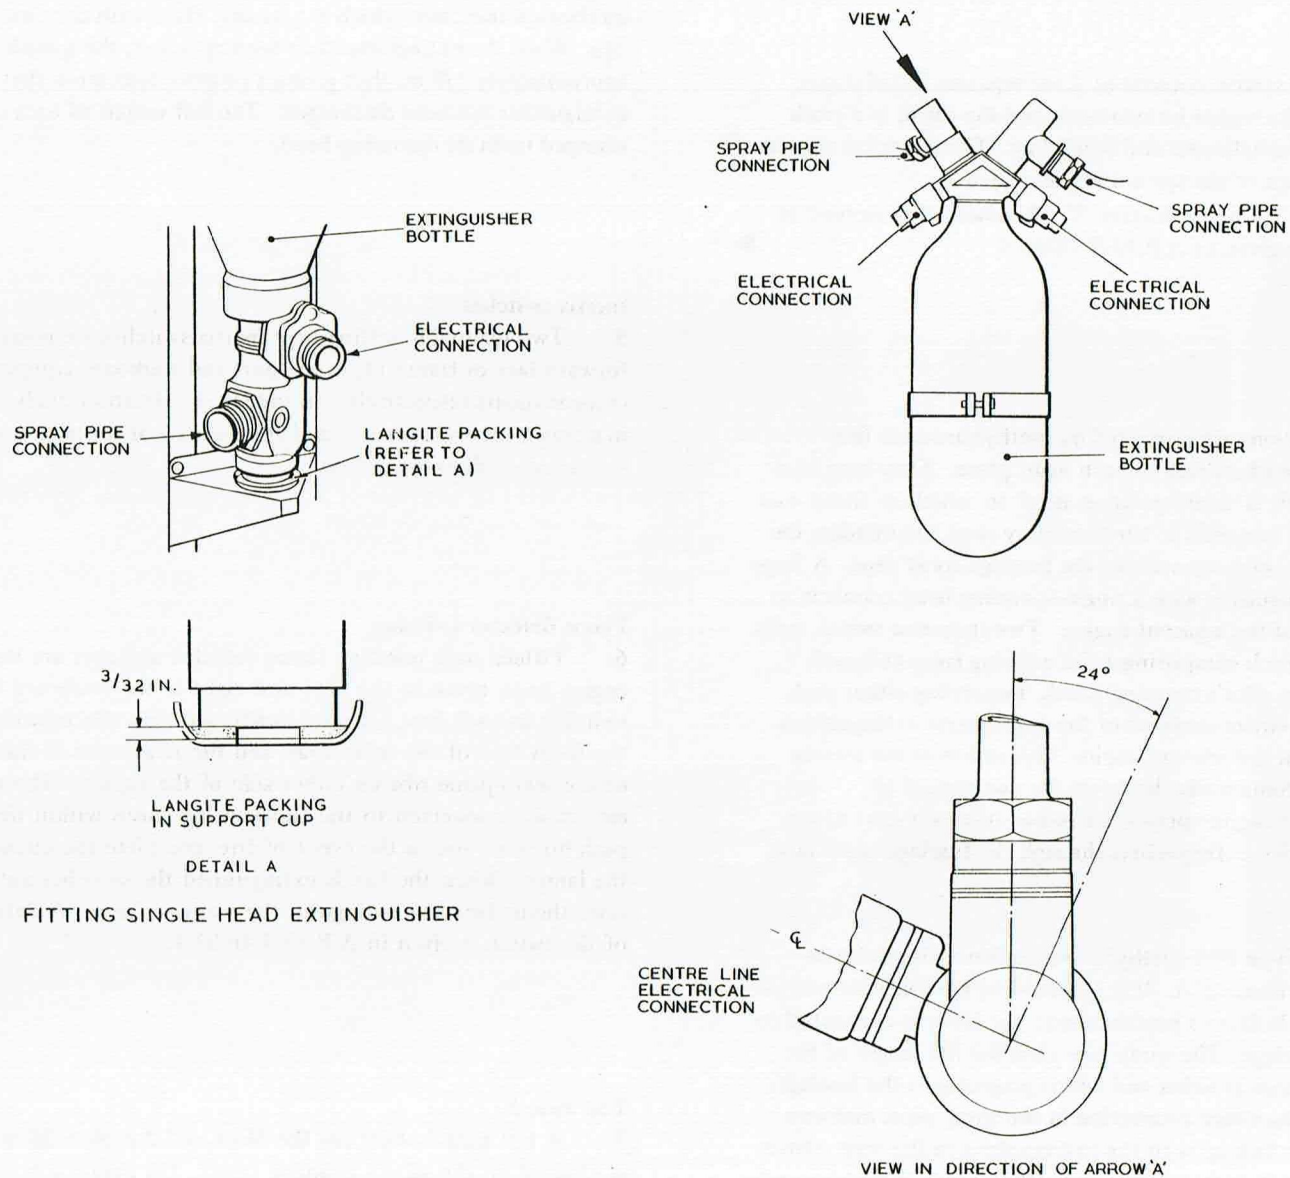

FIG.2.FITTING SINGLE HEAD EXTINGUISHER AND SETTING DUAL-HEAD JUNCTION BOX
14. When fitting a Type 12A or a Type 89A extinguisher, it is essential that the head of the junction box fits securely into the cup of the support disc of the attachment bracket. To ensure that the head of the junction box is correctly housed in the support cup, the thickness of the Langite packing in the box of the cup must be not more than 3/32 in. (fig.2), and the extinguisher must be held firmly in position whilst the attachment straps are being fitted and tightened. The following procedure should be adopted:—